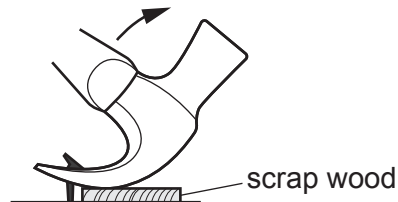

Fig. 4.2
- (b) Fig. 4.2 shows tool **A** removing a nail from wood.
State the purpose of the scrap wood shown in Fig. 4.2.